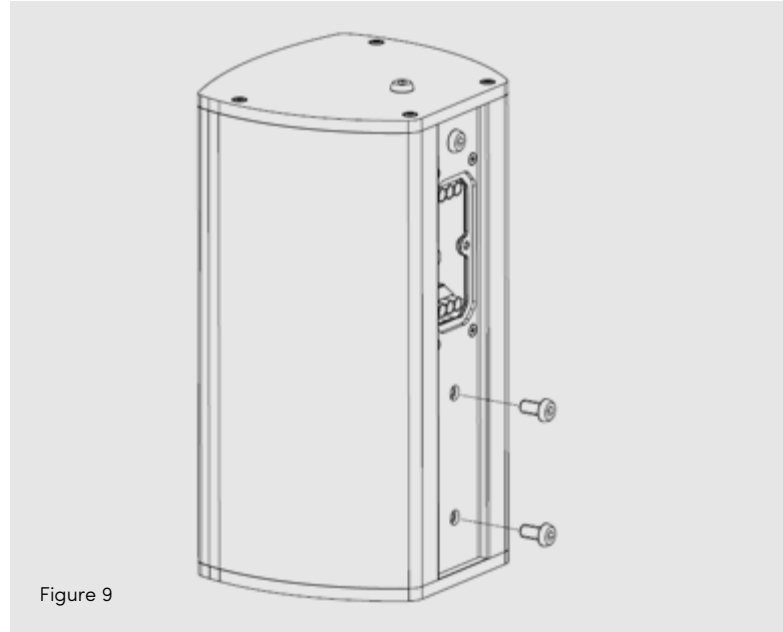

Figure 9
1. Remove the two M6 oval-head screws that are located underneath the connector panel. SEE FIGURE 9.